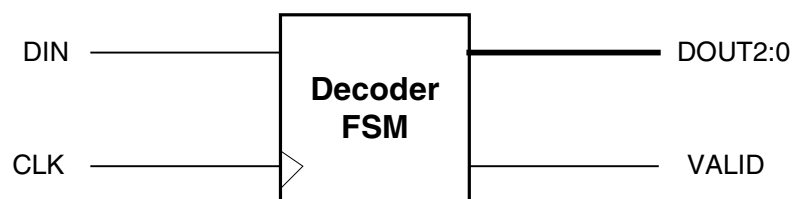

Figure 3
- (b) The continuous stream of received data is translated from Huffman code back to binary code with a finite-state machine decoder as shown in *figure 3*. All signals change on the rising edge of CLK. DIN is the serial data stream containing the message in Huffman code designed in (a). DOUT is the binary code output. It should contain the valid binary code during the clock cycle in which the last bit of each transmitted symbol is received. During this cycle, the VALID signal is high. Draw the state diagram of the finite state machine assuming that the state machine is initialised to state 0 on power-up and always return to state 0 at the beginning of each symbol.